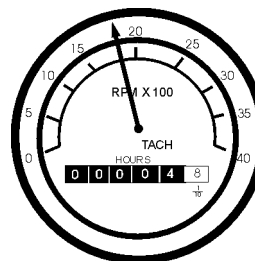

Figure 49. Engine Tachometer
15. The tachometer (Figure 49) will indicate the speed of the engine when the generator is operating. Under normal operating conditions this speed is approximately 1800 RPM's.